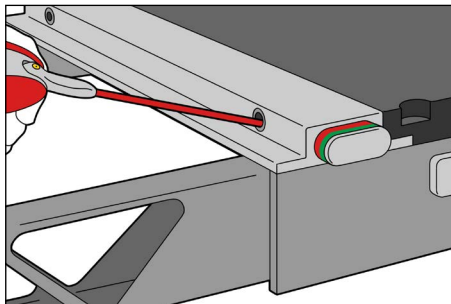

Fig. 4
4. Spray lubricant into the receiving holes. (Fig. 4).
6. Spray lubricant into the receiving holes again. (Fig. 4).